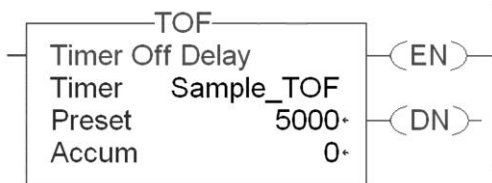

Figure 15-24 Timer instruction for question 6.
- 6-1. The timer tag name for the timer shown in Figure 15-24 is 6-1. _____